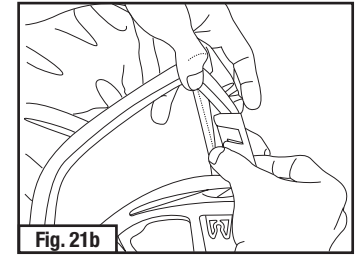

Fig. 21b
- Remove the head suspension by releasing the attachment clips located on each side of the visor (Fig. 21b).